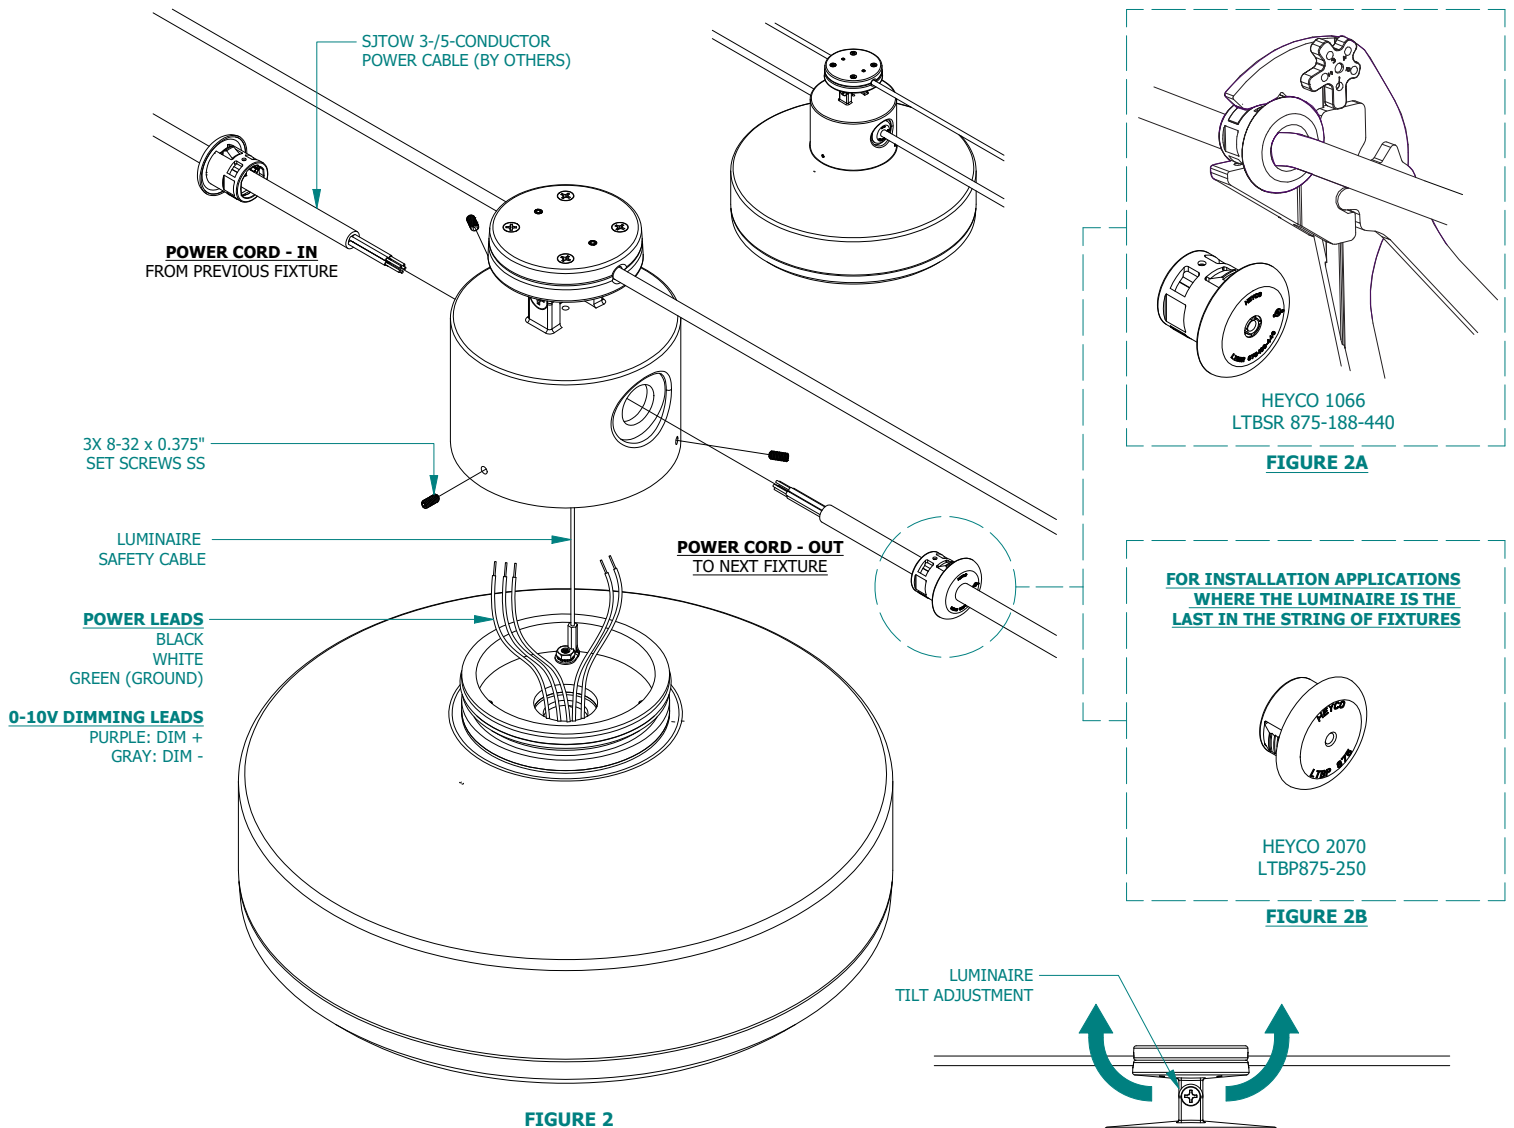

FIGURE 2
1. Remove the 8-32 x 0.375" set screws securing the luminaire body to the wire compartment housing. (FIGURE 2)
2. Strip back the ends of the power cable (by others) to expose the required wire leads and position the HEYCO 1066 LTBSR 875-188-440 liquid tight strain relief bushings, allowing for at least 4.00" of engagement over the power cable. (FIGURE 2)